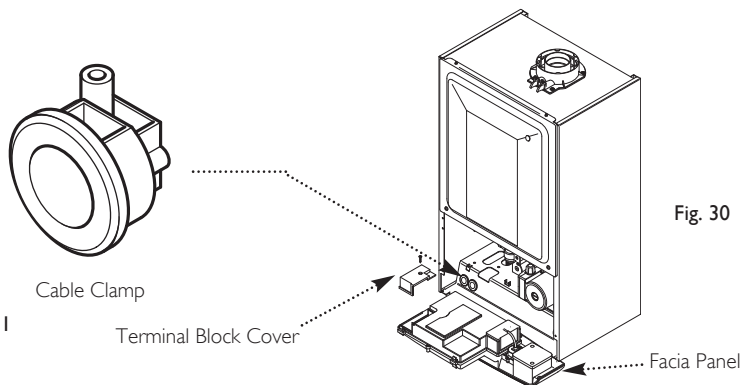

Fig. 30
- Completely undo the screws securing the facia panel and hinge it down (Fig. 30).
- Undo the terminal block cover securing screw and remove the cover (Fig. 30).